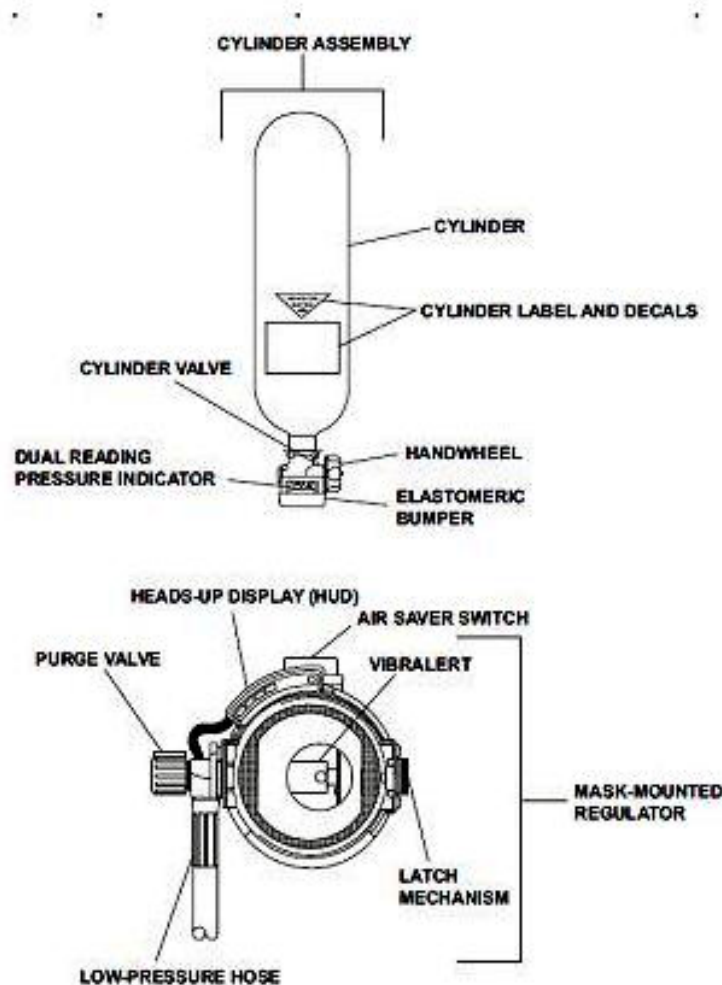

Figure 551-8ST-1004\_07 (Cylinder Assembly and Heads-Up Display)
f. Check the mask-mounted regulator before use. (Figure 551-8ST-1004\_07)